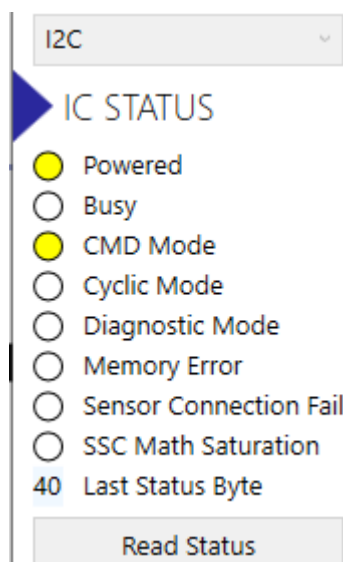

Figure 20. IC Status
When the ZSSC3286 is connected via I2C, the IC Status information is highlighted with yellow status buttons (Figure 20). The IC Status is based on the device status byte described in References item 3.